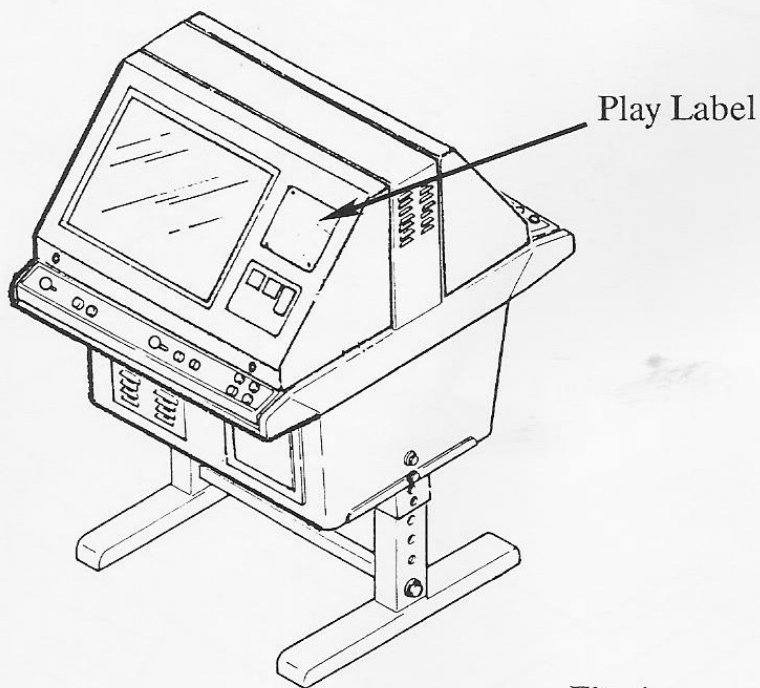

Fig. 1
1. Replace the Play Label (see Figure 1)
- B. From the inside of the table cover, remove the four (4) hex nuts using the 9/32" nut driver that holds down the play label plastic cover.
- D. Peel off the two (2) strips of paper backing on the new play label and adhere into place.
- E. Replace the plastic cover and re-install the four (4) carriage bolts with the four (4) 9/32" nuts.